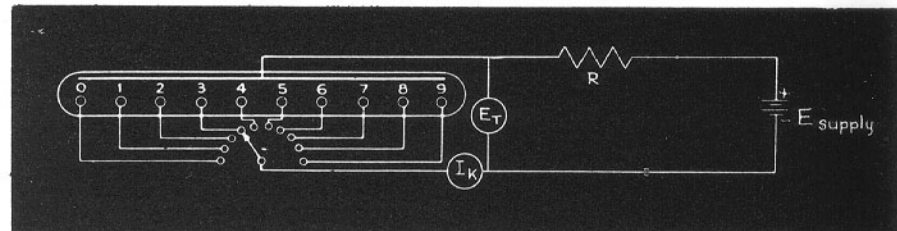

Fig. 1 — Basic Circuit
Test Conditions (See Basic Circuit, Fig. 1)
Recommended Operating Conditions (DC) (See Basic Circuit, Fig. 1)